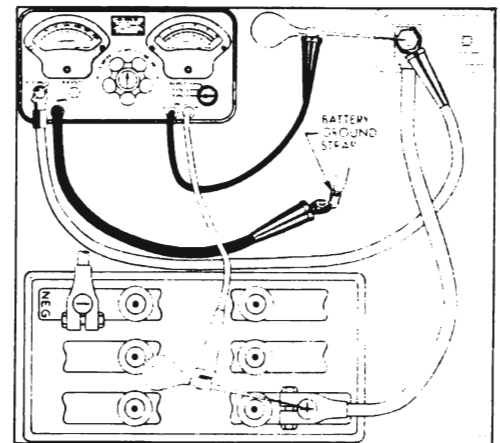

Figure 120-8 - Battery Cable Test Connections
2. Connect ammeter positive (+) lead to post on starting motor. Connect ammeter negative (-) lead to one side of rheostat and connect other side of rheostat to ground on engine, preferably at point where battery ground strap is attached. In the instrument shown in Figure 120-8 the ammeter and rheostat are connected in series inside the case.
3. Connect voltmeter negative (-) lead to post on starting motor. Use prod with voltmeter lead, if necessary, to insure direct contact with the terminal stud. *Do not connect to the ammeter lead clip.* Attach a prod to voltmeter positive (+) lead and apply the prod to center of battery positive (+) post (Figure 120-8). Make sure that clips of voltmeter leads have clean metal contact with prods.